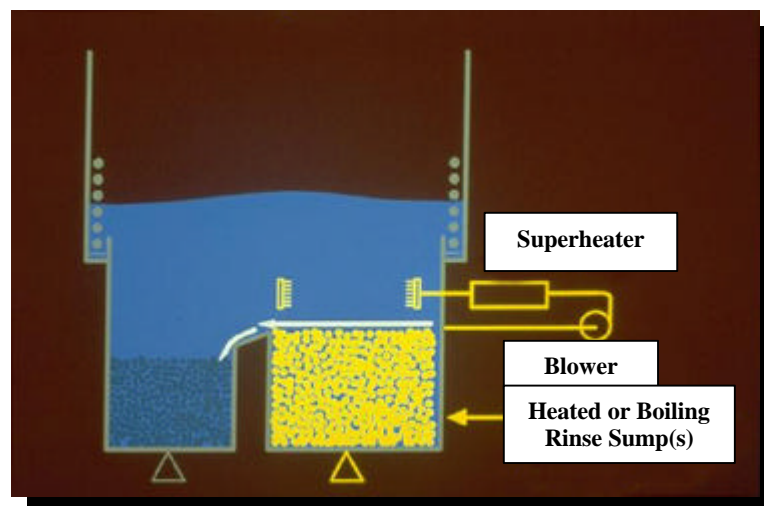

Figure 19
2. Use either static or dynamic super-heated vapor drying. This concept involves heating the vapor blanket well above the boiling point of the solvent. The workload is exposed to this super-heated vapor upon removal from the final liquid immersion. The hot vapor rapidly increases the temperature of the workload to well above the boiling point of the solvent causing the it to boil and evaporate off the workload rapidly - totally eliminating any dragout (see Figure 19). Another concept incorporates the use of a “hot plate” or heated surface, under the vapor blanket. Once the cleaning cycle is complete, the basket or parts are placed on the “hot plate” in order to heat the parts above the boiling point of the solvent, eventually flashing off the solvent.